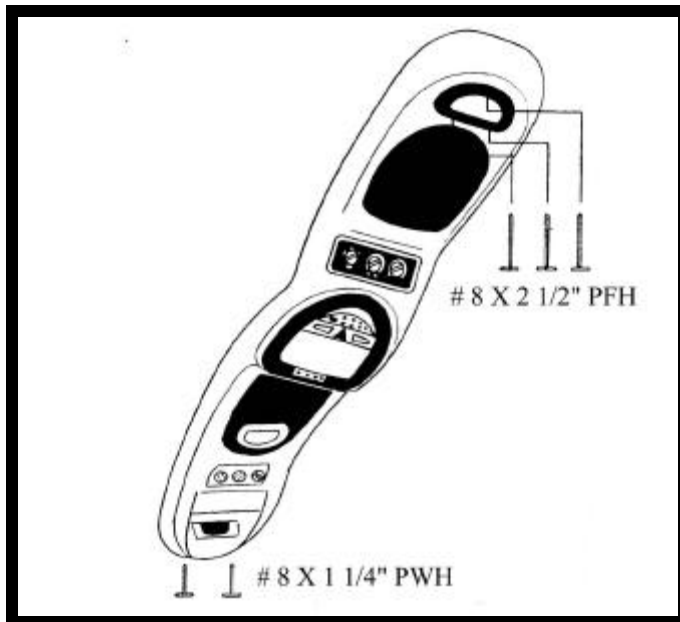

FIGURE 16
23. Carefully position console against headliner. Secure the front of console to the inner roof of vehicle using (2) two # 8 x 1 1/4" screws. Make sure console is centered between sun visors before tightening screws completely. See Figure 16. Tighten (2) 6-32 X 3/4" screws installed in step 22.
28. Secure rear of console to headliner using (2) two #8 x 2 1/2" screws at the rear light. **NOTE:** Make sure the plywood is centered in the rear light area before installing screws. **To prevent warpage of console or damage to roof of vehicle, do not overtighten screws.** See Figure 16. Remove and discard the # 6 x 1/2" screw from the center mounting location and replace with (1) one # 8 x 2 1/2" screw.